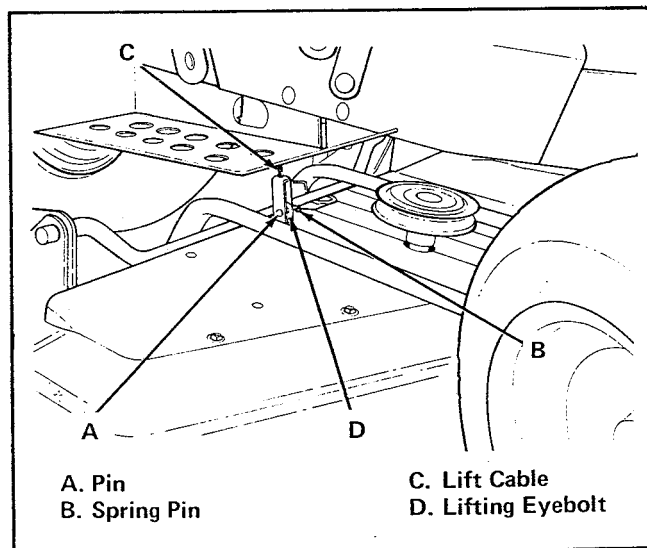

Figure 7. Attach Tractor Lift Cable
4. Use pin (item A, figure 7) and spring pin (B) to attach tractor lift cable (C) to lifting eyebolt (D) on mower.